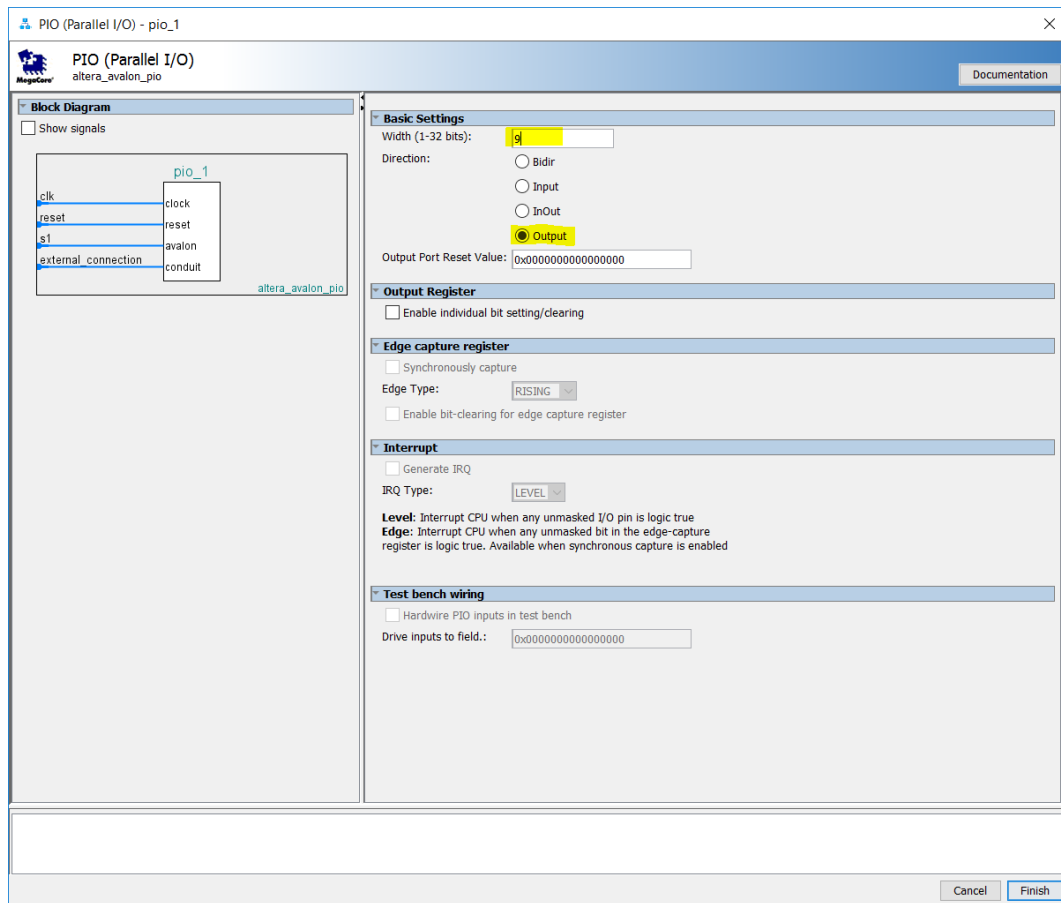

Figure 16: Parallel IO Configuration Panel for LED Outputs
- ☐ When you have setup your LED output component interface as in Figure 16, click **Finish**.